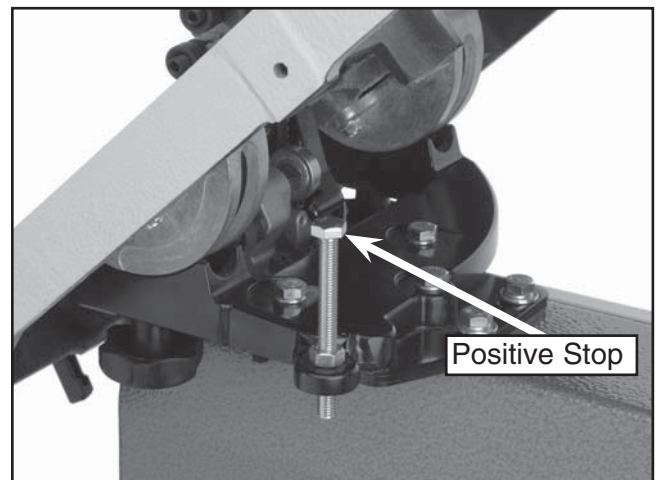

Figure 15. Installed positive stop bolt.
2. Thread the positive stop bolt into the threaded hole on the trunnion support bracket as shown in **Figure 15**.